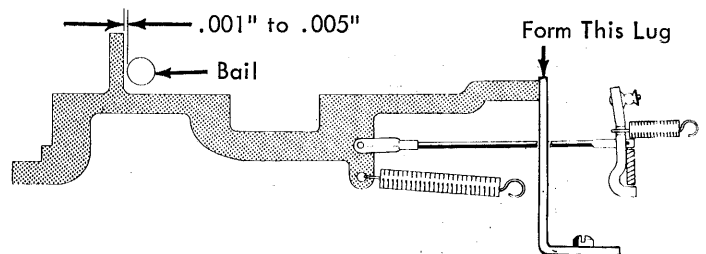

FIGURE 17. Latch Interposer Stop (Early Style)
- 15. Latch Interposer Stop - Form the stop lugs to obtain .001" to .005" clearance between each latch interposer and its respective selector bail (Fig. 17 or 18).